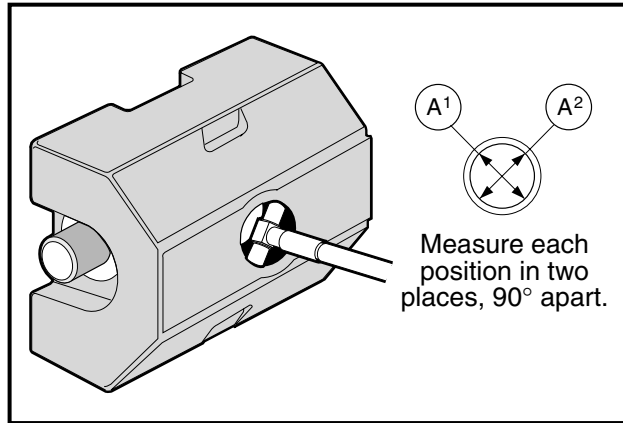

Figure 13-79 Measure Counterbalance Bearing Surface I.D.
2. Using a telescoping gauge and micrometer, measure the inside diameter of the bearing surface (**Figure 13-79, Page 13-39**).